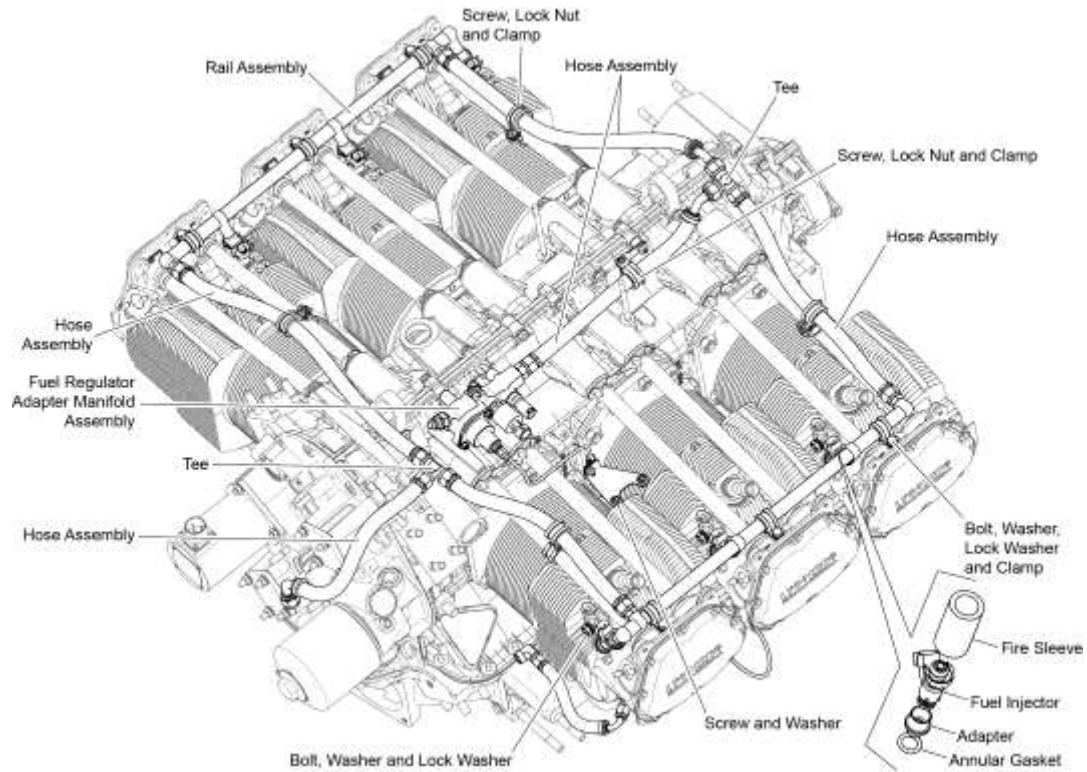

Figure 10
- (30) Install the rotator type valve stem cap (Figure 10) on the exhaust valve stem and the intake valve stem cap on the intake valve.